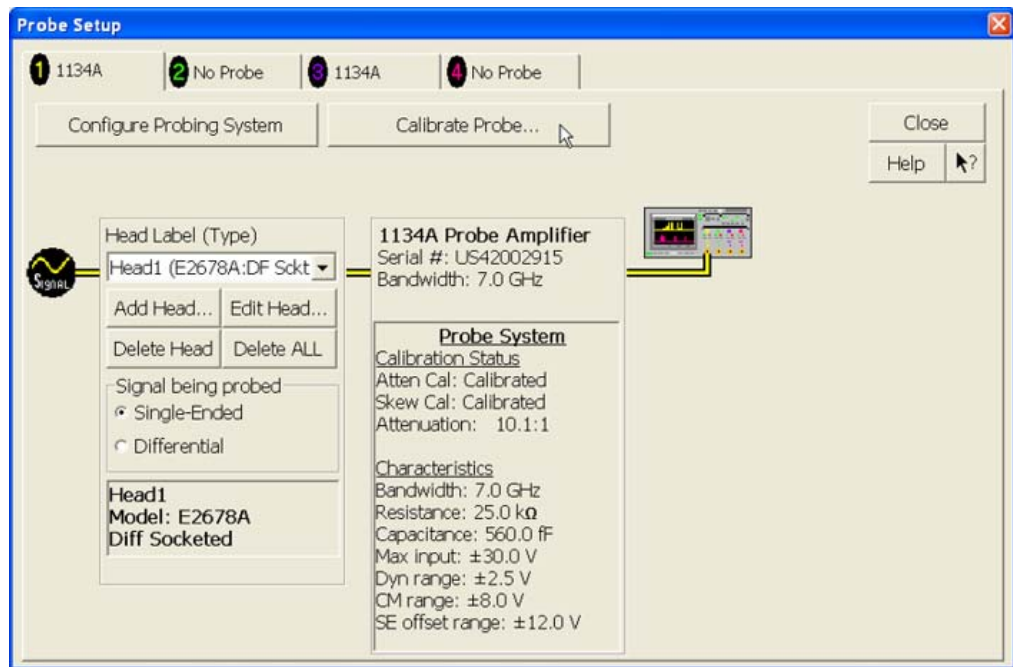

Figure 103 User Defined Probe Window.
- 3 Referring to Figure 103 below, perform the following steps: